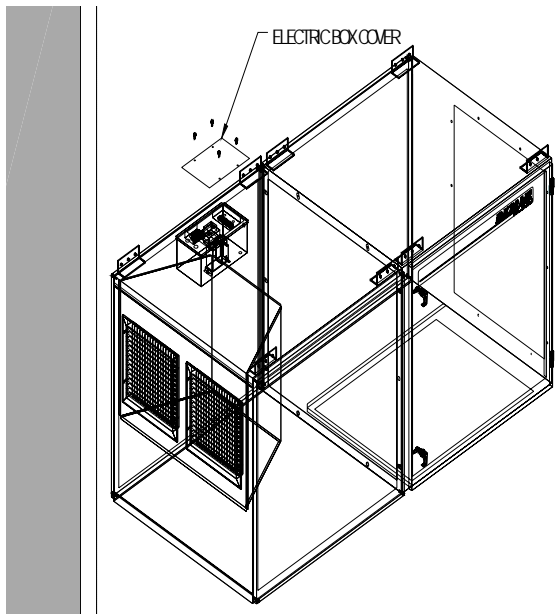

FIGURE 3
- Remove electrical box cover located on top of the MC 3000 Blower Module (see Figure 3).